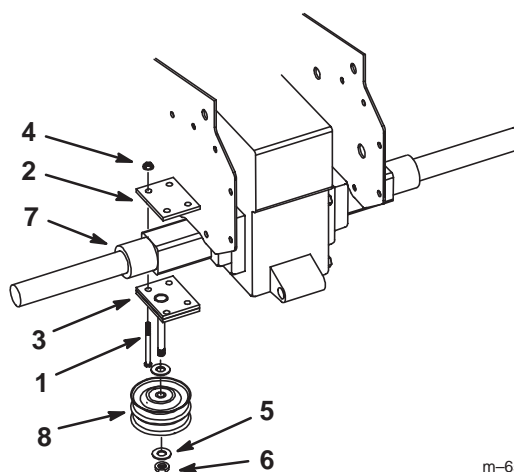

Figure 5
1. Loosely, install the pulley mounting plate and top plate to the left hand rear axle with 4 bolts (3/8 x 3-1/2 inch) and 4 flange nuts (3/8 inch) (Fig. 5).
2. Slide the two plates to the edge of the square portion of the axle and then tighten the bolts and nuts (Fig. 5).
3. Install a flat washer (7/16 inch) and the double pulley onto the pulley shaft (Fig. 5).
4. Secure the double pulley with a flat washer (7/16 inch) and locknut (7/16 inch) (Fig. 5).
4. Install a flat washer (7/16 inch) and the double idler onto the pulley shaft (Fig. 5).
- Secure the double idler pulley with a flat washer (7/16 inch) and locknut (7/16 inch) (Fig. 5).